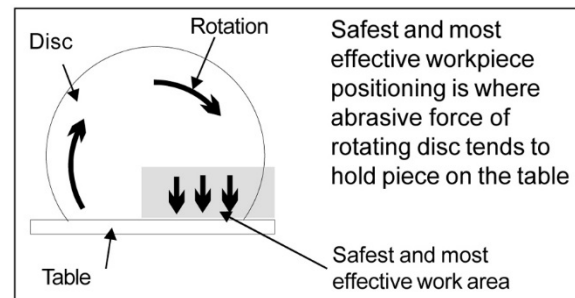

Figure 6: Correct table work area
4. The safest position at which to do any grinding is on the right hand side of the work table where the disc is moving downward past the work table. Whenever possible, keep the workpiece in this area when grinding. In addition to safety, keeping the workpiece in this area greatly increases the effectiveness of the dust control chute and any vacuum dust control system you might be using. See Figure 6.